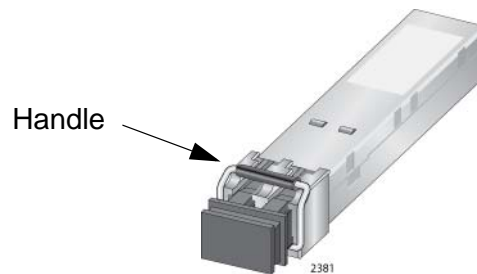

Figure 107. Handle on an SFP+ Transceiver
2. If you are installing the SFP+ transceiver in slot 1 or 3, orient it with the handle on top, as shown in Figure 107. To install it in slot 2 or 4, orient it with the handle on the bottom.